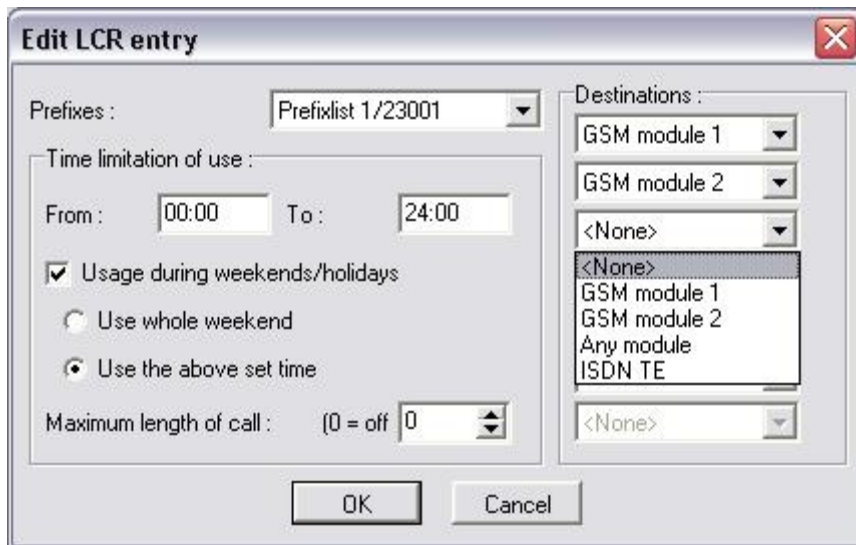

Fig. 35 – LCR table Data Entering
- *Add* – this button adds a record into the LCR table. By pressing it you open the editing window (see Fig. 35).